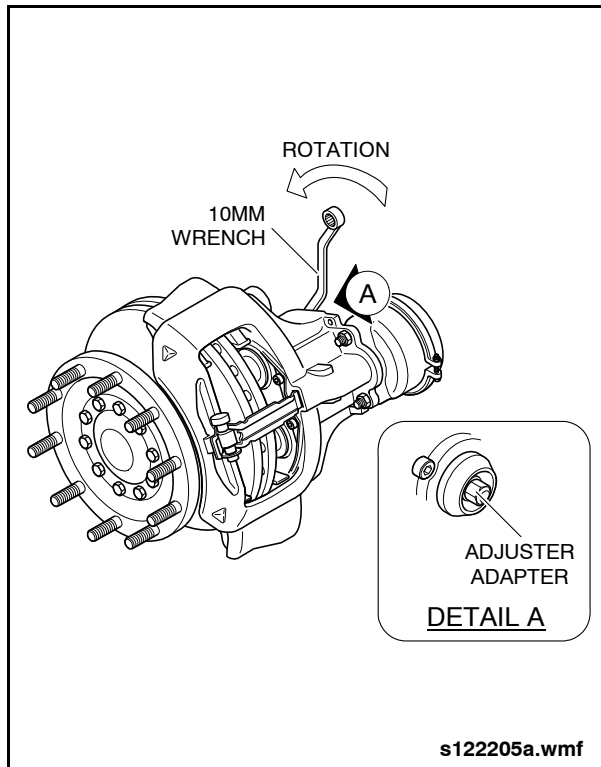

Fig. 1: Checking Adjuster Movement
2. Rotate the adjuster adapter one half turn (approx. 3 clicks) counter-clockwise using a 10 mm wrench. See "Fig. 1: Checking Adjuster Movement" on page 3.